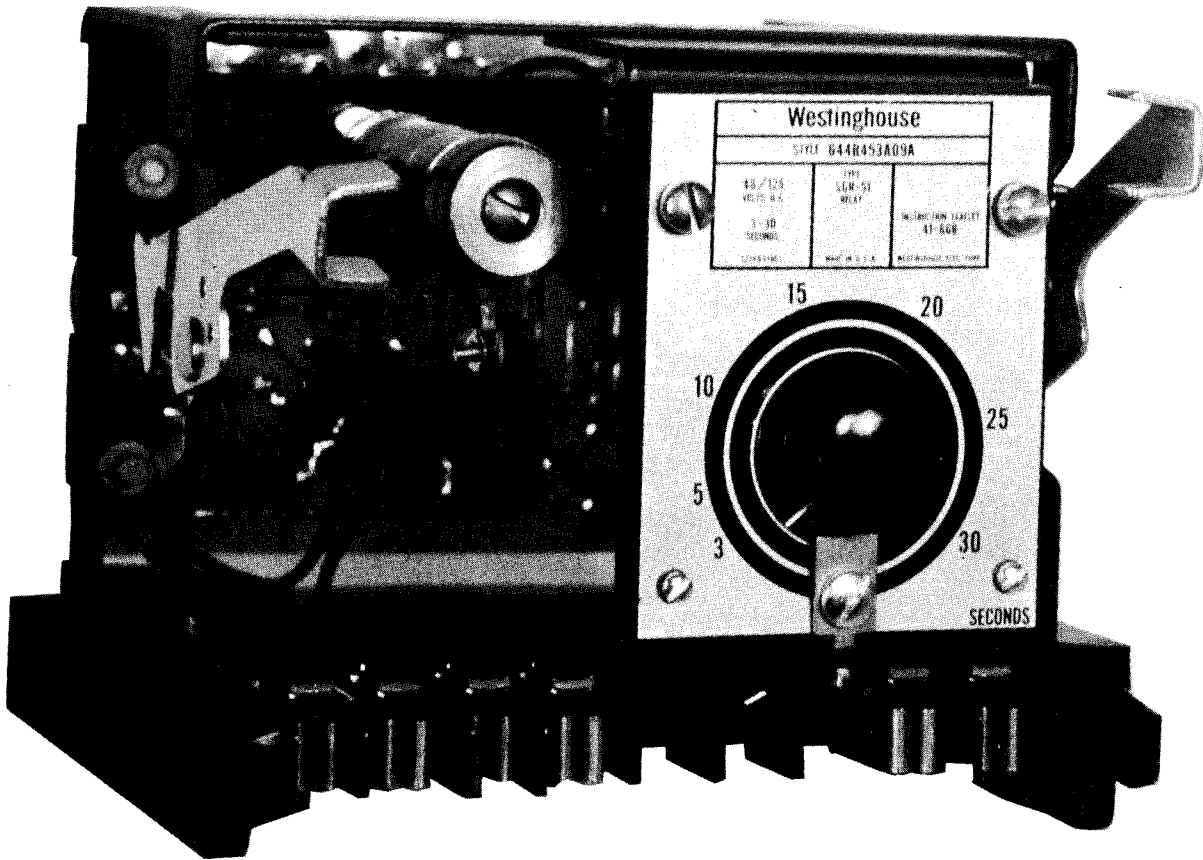

Fig. 1 Type SGR-51 Reclosing Relay (Front View).
The SGR-51 is a completely static relay consisting of (1) a timing circuit, (2) a flip-flop control circuit, (3) an output pulse circuit, and (4) a reclosing circuit. All components except the reclosing circuit Thyristor are mounted on a printed circuit board. The Thyristor is mounted on a heat sink located on a sub base. All components are identified on the internal schematic on Figure 1.
The following description is made with reference to Figure 1.
2. Check resistances as listed on the internal schematic, Figure 1.